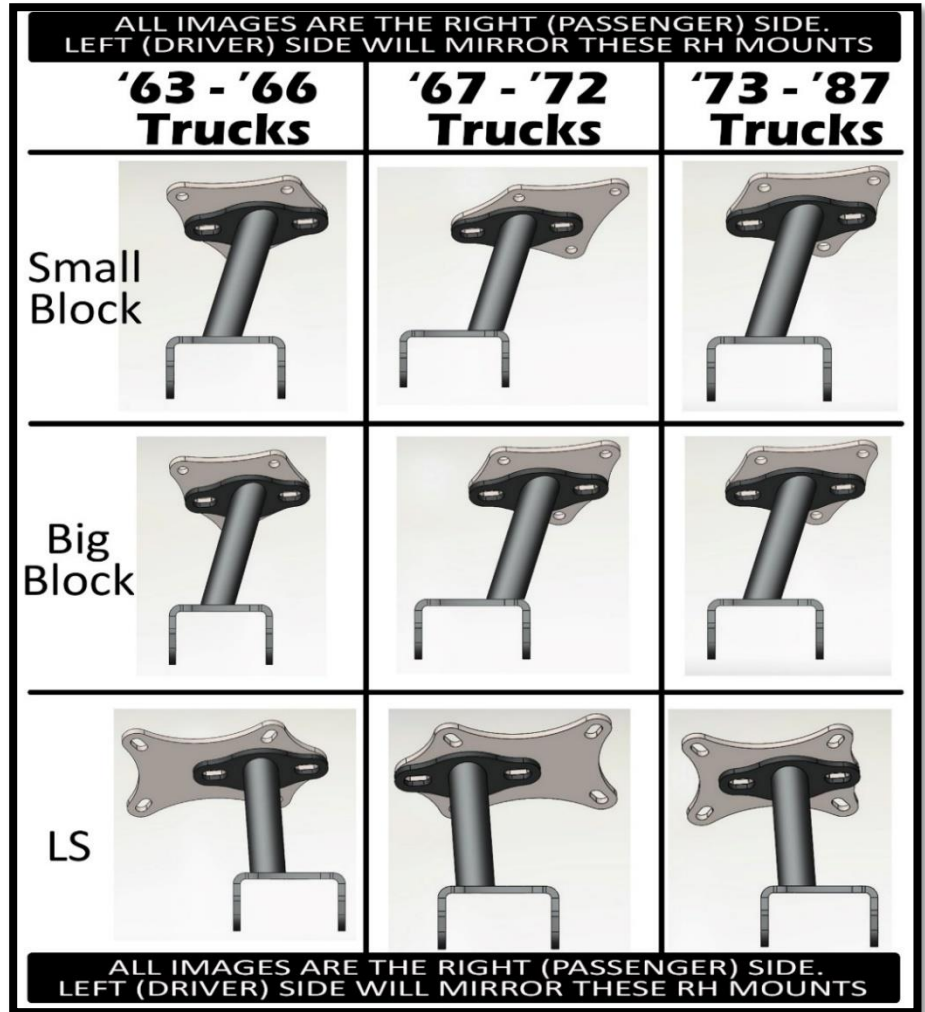

Figure 22
30. Install two bushing halves into each bushing can on the crossmember and push the included sleeve into the bushing mount after coating with the supplied bushing grease. **(Figure 22)** Using a large clamp or channel locks will assist with installing the sleeve.